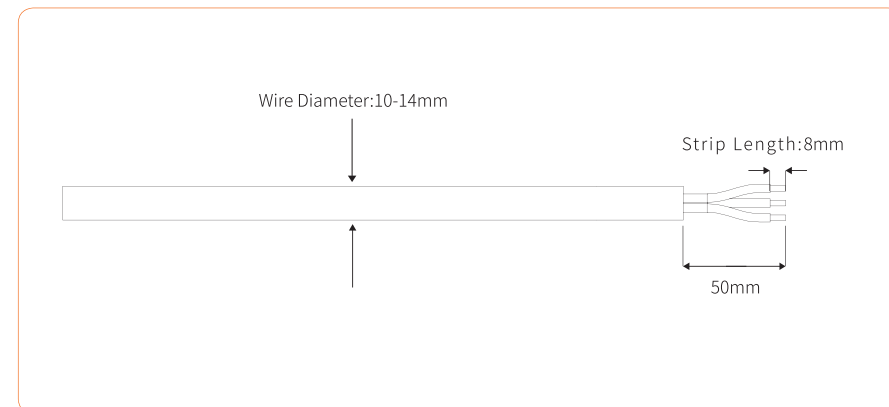

Figure 4-16
② According to the table above, select an appropriate cable, peel the insulation sleeve of AC cable off for 50mm, and peel off the end of L / PE / N wires for 8mm, as shown in Figure 4-16: